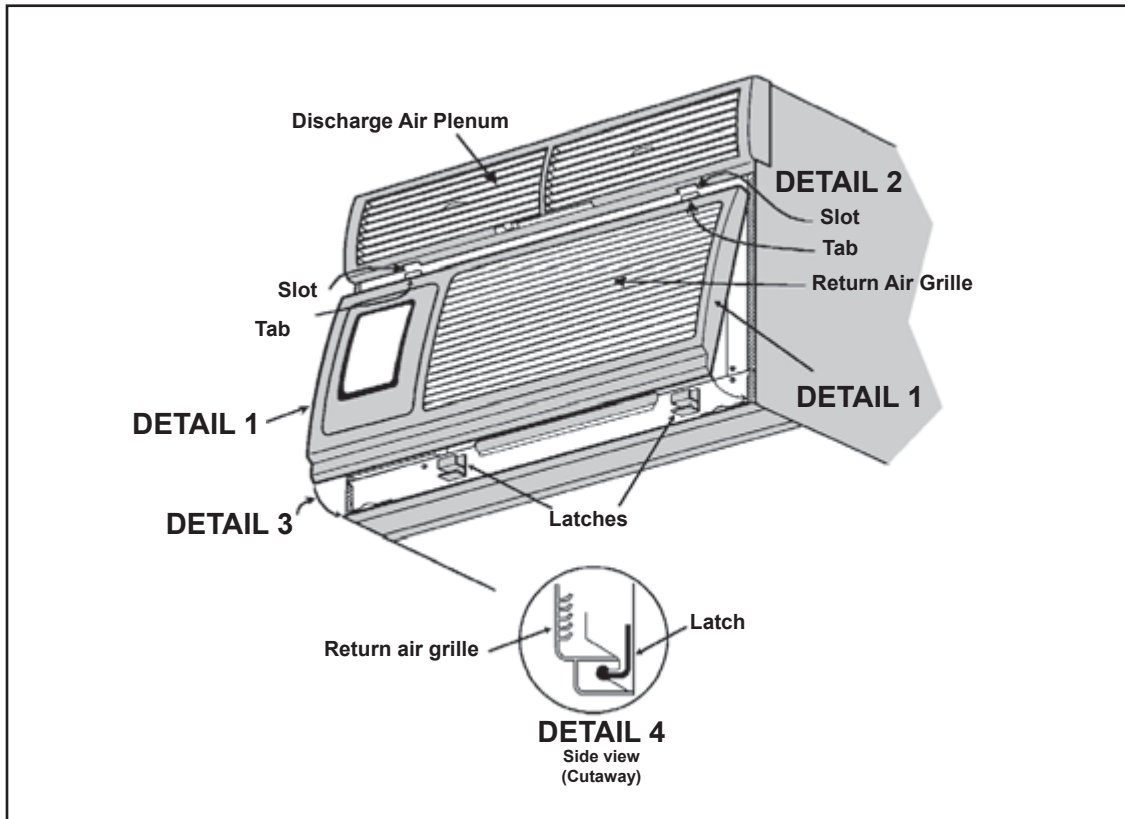

Figure C.7.2
2. Be sure that the filter is in place then install the return air grille (See Figure C.7.2). The top of the return air grille can be butted against the bottom of the discharge plenum. Snap the grille into place by pushing the grille up and onto the unit's latches at the bottom. (See Detail 4).